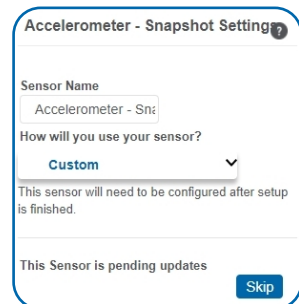

Figure 3
**Select your use case. See Figure 3.**